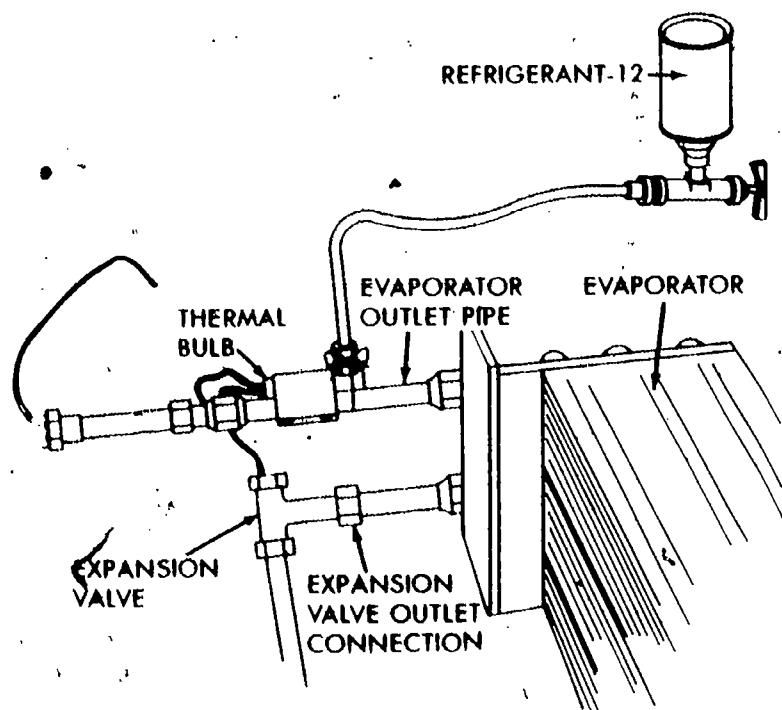

Fig 57 — Tie Hose From R-12 To Thermal Bulb
5. Check for frost on upper end of expansion valve just before the valve outlet connection (see Fig. 57).
- b. If high side pressure is high, connect a hose to a can of Refrigerant-12. Tie open end of hose to thermal bulb (Fig. 57). Open valve on can of Refrigerant-12 1 1/2 turn. Invert can for 10-15 seconds. Close valve and observe low side pressure gauge for a decrease in pressure.